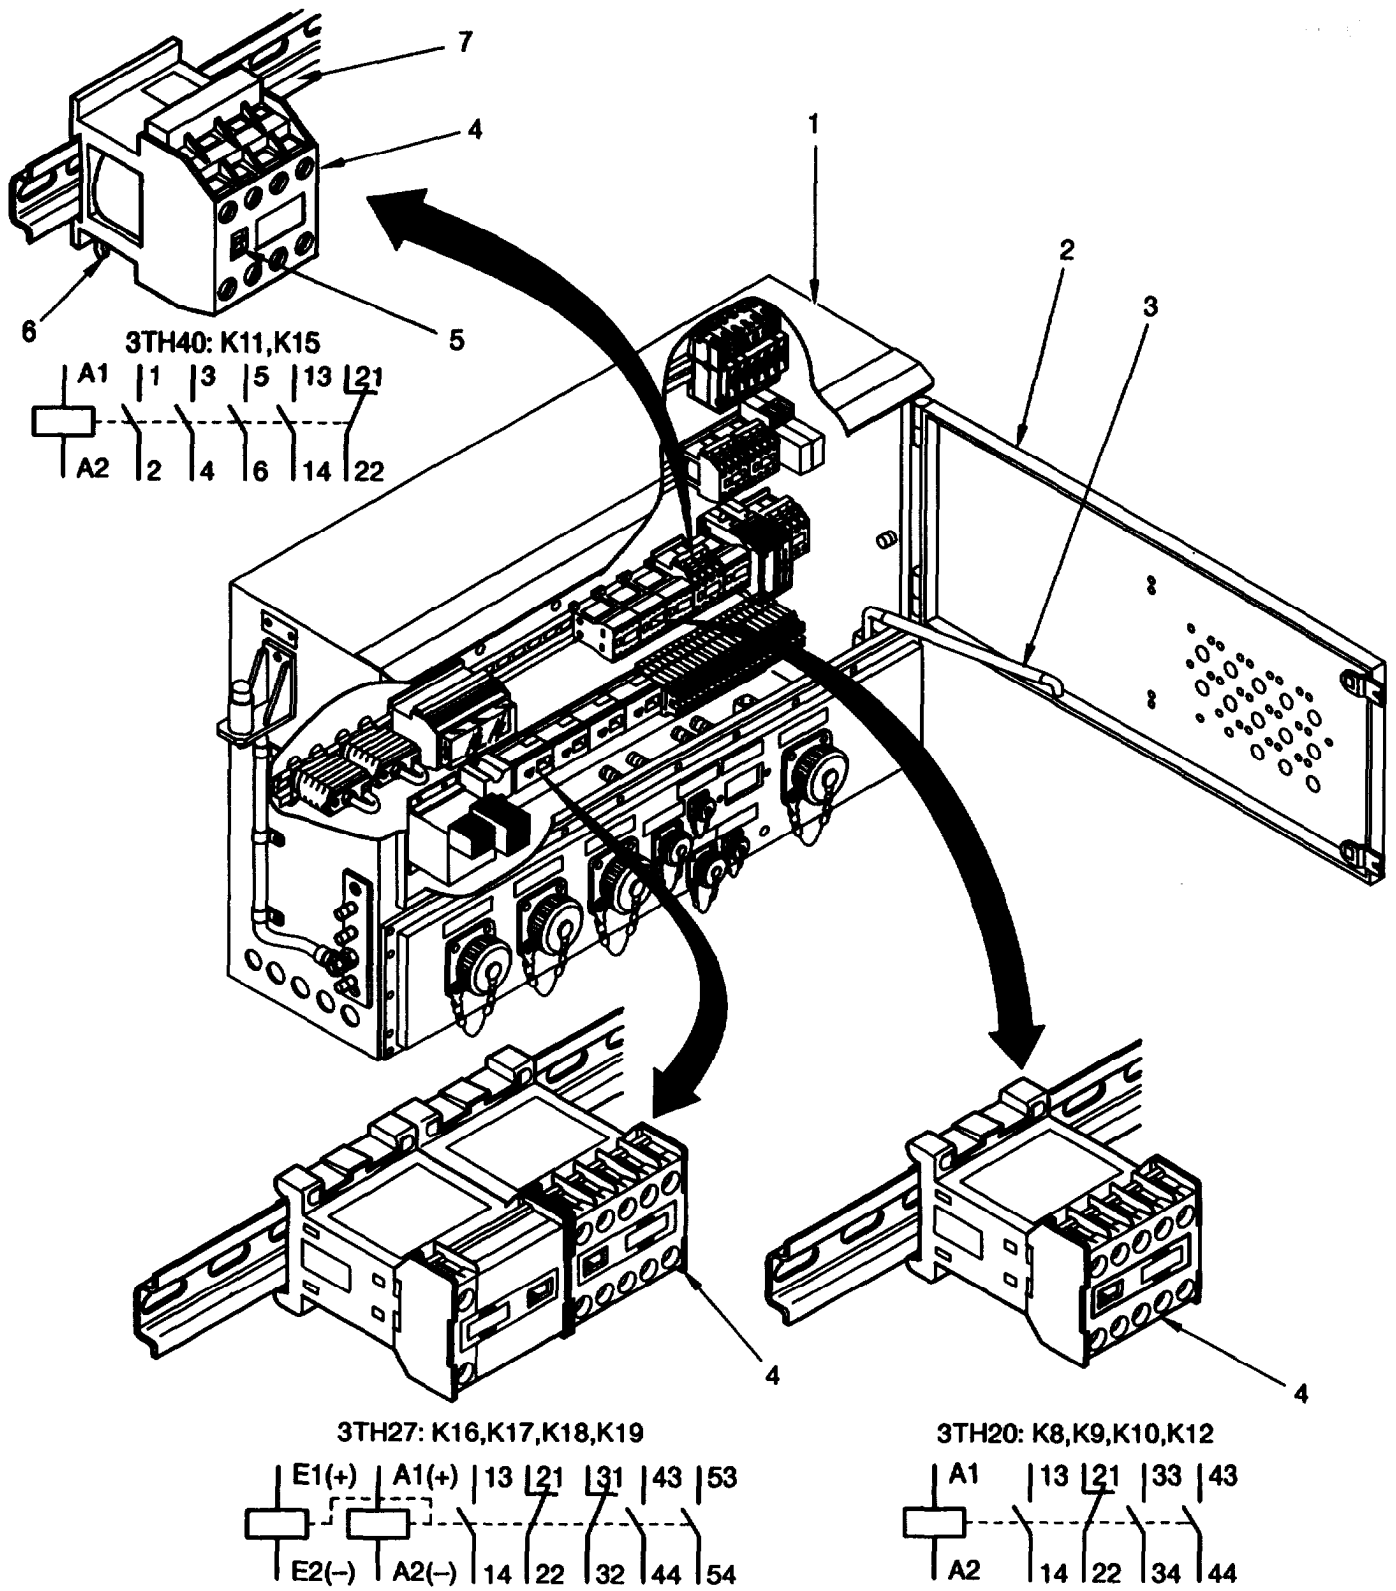

Figure 4-43 Auxiliary Contactors (except K20, K21).
- a. Remove stanchion by PDU (1, figure 4-43).
- b. Open access door (2) and secure with prop (3).
- d. Record labeling and position of cables of auxiliary contactor (4), loosen screws, and disconnect cables.
- e. Use a screwdriver to push locking element (6) on auxiliary contactor (4) in direction of arrow, tilt auxiliary contactor upward, and remove from mounting bar (7).
- d. Operate plunger (5) manually to the energized position. Using multimeter perform continuity check as indicated in figure 4-43.
- (1) Briefly applying +24 VDC to terminal A1 (+) will cause the contactor to switch to energize.
- (2) Briefly applying +24 VDC to terminal E1 (+) will cause the contact to reset to the de-energized position.